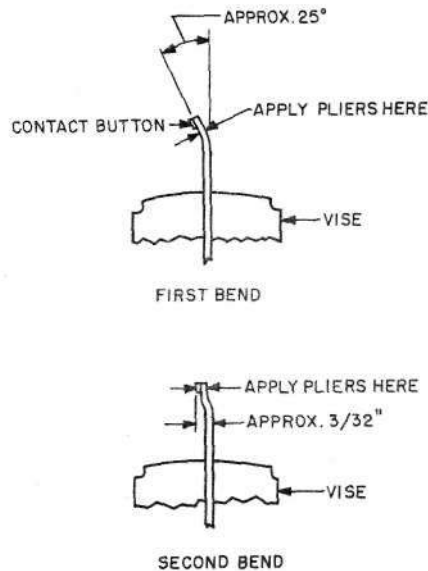

Fig. 3—Modifying No. 22 Electrode
3.14 To modify the movable electrode, remove this electrode from the welding pliers as covered in 3.16. Clamp the electrode in a vise as shown in Fig. 3 so the tip of the electrode is approximately 1/2 inch above the jaws of the vise. Place the tips of the B long-nose pliers over the electrode just behind the contact button at the points designated in the figure for making the first bend. Bend the tip of the electrode in the direction of the contact button so the tip is at an angle of approximately 25 degrees with the main portion of the electrode. Then, place the tips of the pliers over the contact button at the points designated in the figure for making the second bend. Bend the tip of the electrode back so the contact button is approximately parallel to the main portion of the electrode as shown in the figure. With this bend the contact button should be offset approximately 3/32 inch from the main portion of the electrode. After bending, make sure the main portion of the electrode has a slight convex bow on the side of the contact buttons as provided during manufacture. This bow insures close contact between the electrode and the jaw of the welding pliers when the electrode is mounted on the jaw. After modifying the electrode, insulate the electrode as follows. Cut a piece of plastic electrical tape approximately 3/4 inch long. Place the tape on the electrode approximately 1/8 inch below the contact button and trim the tape to conform with the sides of the electrode using a single-edged razor blade.